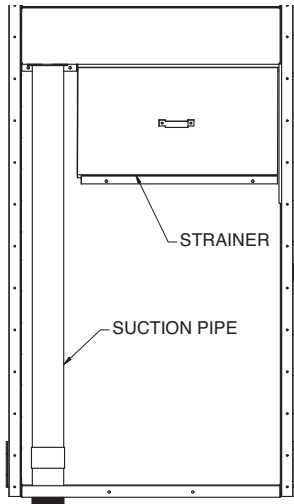

Figure 12a – Strainer Location on 3’ and 5’ Wide Units.
**Strainer** - Check the strainer in the basin to ensure that it is in its proper location over the pump suction as shown in Figures 12a and 12b.